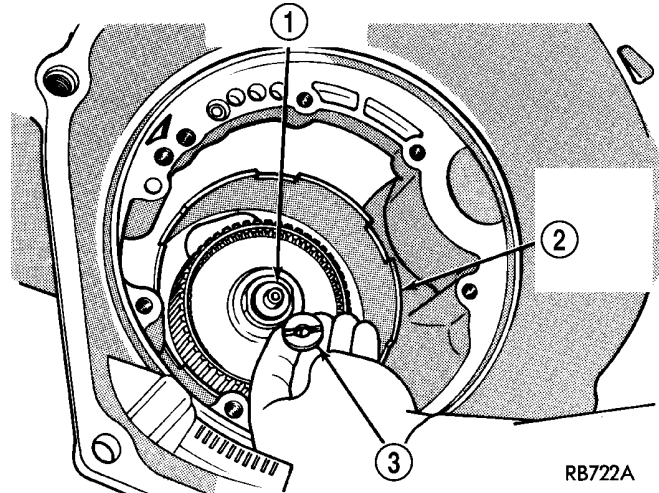

Fig. 54 No. 3 Thrust Washer
(12) Install #3 thrust washer (Fig. 54). Refer to end play specification recorded during transaxle disassembly to determine whether or not replacement is necessary.